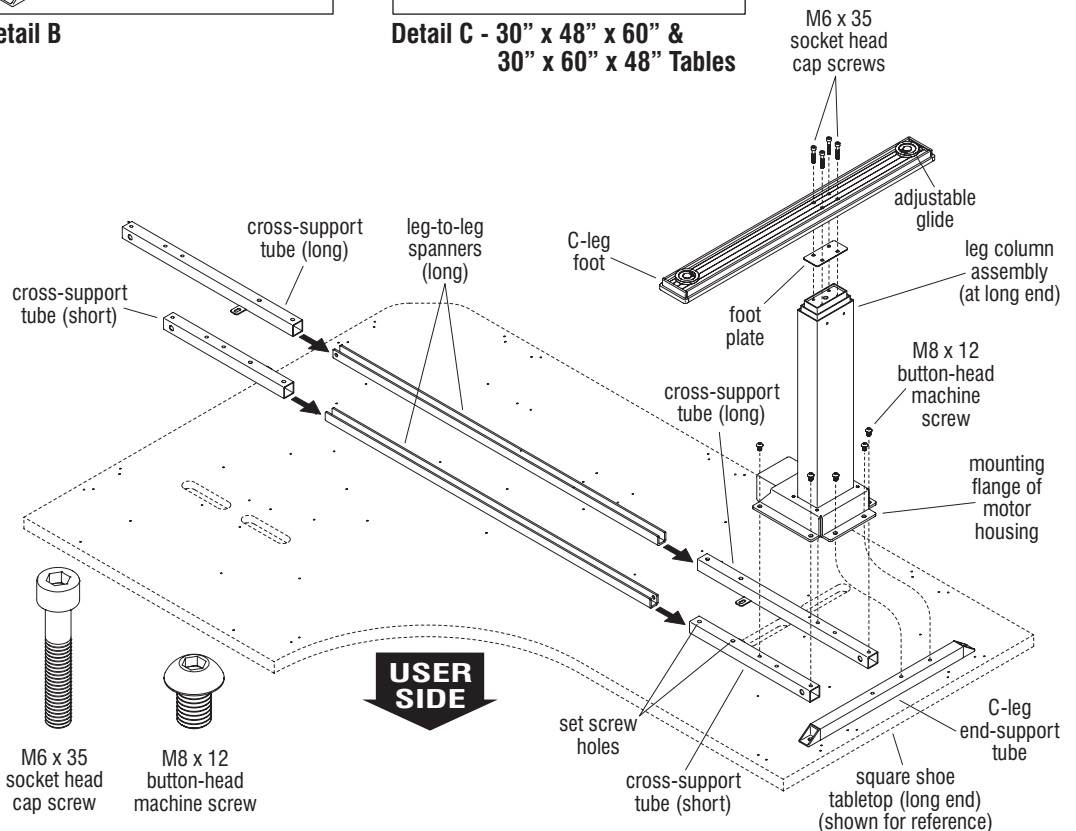

Figure 2
Note: Two different lengths of cross-support tubes and leg-to-leg spanners are supplied. The short end of the table uses four short cross-support tubes and two short leg-to-leg spanners (Figure 2).
Note: There are two different lengths of cross-support tubes and leg-to-leg spanners. The long end of the table uses two short and two long cross-support tubes and two long leg-to-leg spanners. The two longer support tubes must be installed to the back, longer, non-user side of the table (Figure 2).
1. Start assembling the C-leg to be placed on the long end of the table by positioning one shorter and one longer cross-support tube (with mounting tabs facing down and facing inwards), and one C-leg end support tube in position as illustrated in Figure 2. The longer cross-support tube must be positioned to the back, longer, non-user side of the table. Place a leg column assembly over the three support tubes and align six mounting holes of the leg column mounting base with appropriate mounting holes of the three tubes as illustrated. The C-leg end support tube contains three mounting holes but only the two non-user side holes are used. Make sure the tube has the longer end with one unused mounting hole facing the user side as illustrated in Detail B. Using six M8 x 12 button head machine screws torqued to 9.5 ft/lb, secure the flange of the leg column to the three support tubes (Figure 2).
2. Assemble the C-leg foot to the leg column by first positioning a plastic foot plate over the mounting location on the leg column. The foot plate must be oriented so the raised flange faces into the column, to nest the foot plate into place. Next, position a foot over the foot plate and leg column as illustrated, with the mounting holes of the foot aligning with those of the leg column. It is important that the longer end of the C-leg foot face the user side. Once the foot is correctly oriented, secure the foot to the leg column with four M6 x 35 socket head cap screws. Torque to 7.5 ft/lb (Figure 2).
the open ends of the cross-support tubes installed under the leg column base. Next slide a cross-support tube (matching the same length as at the opposite end of the leg-to-leg spanner) onto each end of the leg-to-leg spanners (with mounting tabs face down and facing inward). Do not secure the support tubes to the spanners with set screws at this time (Figure 2).